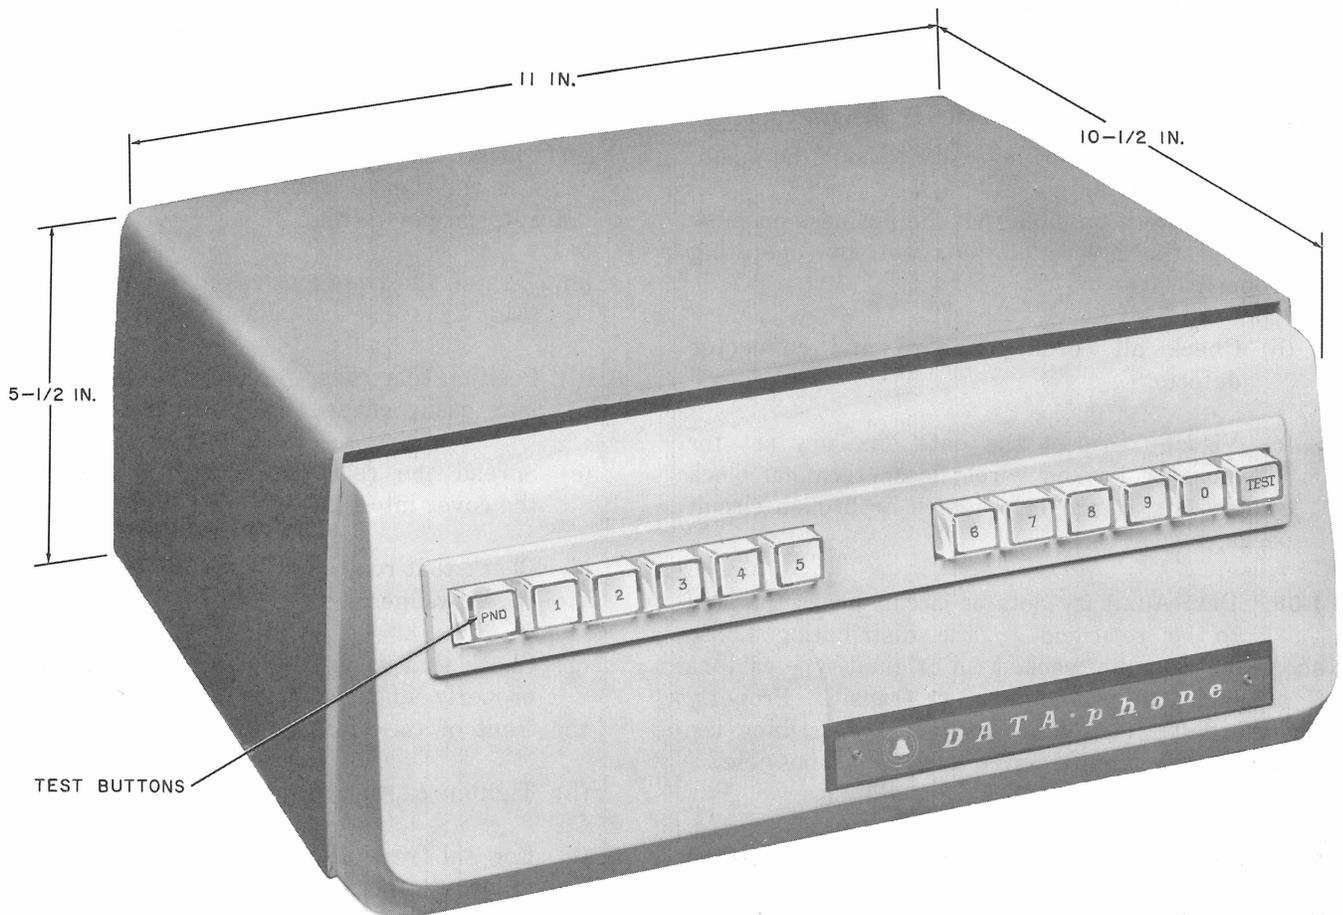

Fig. 1—Data Auxiliary Sets 801C3 and 801C4
1.01 The Data Auxiliary Sets 801C3 and 801C4 shown in Fig. 1 are referred to in this section as an Automatic Calling Unit (ACU).